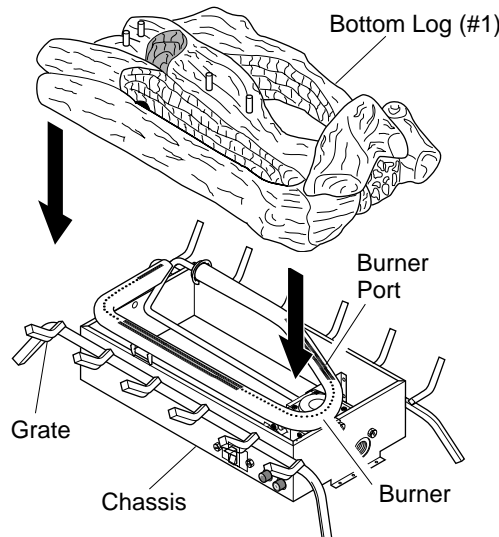
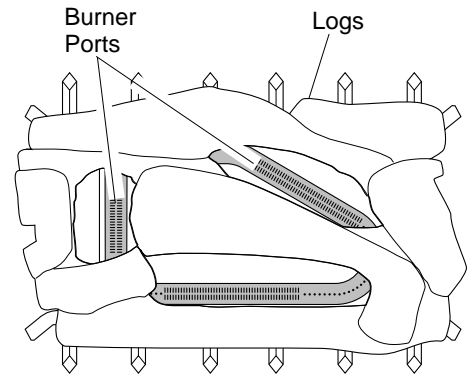

Figure 18 - Installing Bottom Log (#1)
Figure 19 - Installing Log set (Top View)
1. Place bottom log (#1) on grate to fit as illustrated in Figure 18. Make sure open areas of log set line up with burner ports (see Figure 19). Log will fit securely on chassis. **IMPORTANT:** Make sure log does not cover any burner ports.